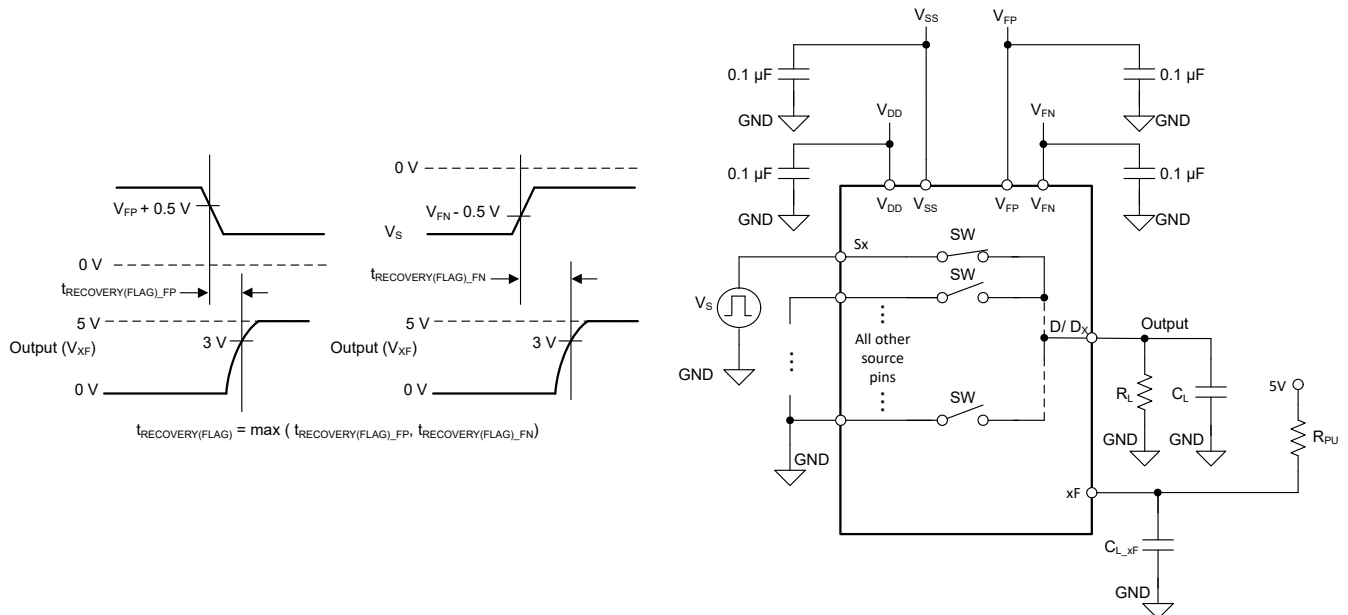

Figure 8-12. Fault Flag Recovery Time Measurement Setup
Fault flag recovery time ($t_{\text{RECOVERY(FLAG)}}$) measures the delay between the source voltage falling from overvoltage condition to below fault supply voltage (V_{FP} or V_{FN}) plus 0.5 V and the general fault flag (FF) pin or the specific fault flag (SF) pin to rise above 3 V with 5 V external pull-up. Figure 8-12 shows the setup used to measure $t_{\text{RECOVERY(FLAG)}}$.